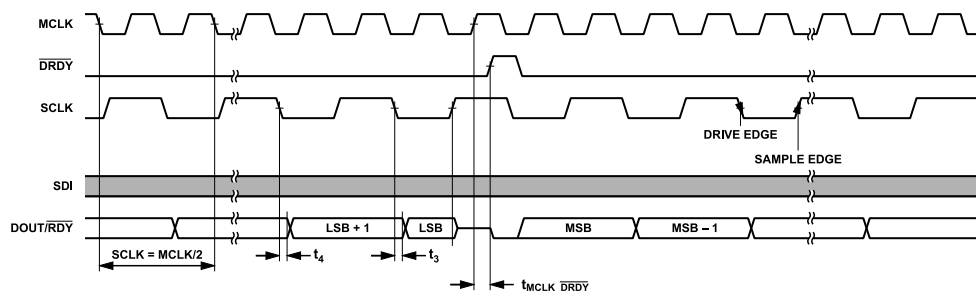

Figure 153. Recommended Interface for Reading Conversions, SPI Control, Continuous Readback Mode
The ADAQ7768-1 interface is flexible to allow the many modes of operation and for data output formats to work across different DSPs and microcontroller units (MCUs). To achieve maximum performance, Figure 153 show the recommended interface configuration
Figure 153 shows how the recommended interface operates. The data read back spans the entire length of the \overline{DRDY} period and the LSB remains until \overline{DRDY} goes high for the next conversion.
2. Generate SCLK based on the \overline{DRDY} or \overline{RDY} timing. SCLK is high when the \overline{DRDY} signal goes high and transitions on the MCLK falling edges (see Figure 153) to ensure that the LSB can be read correctly as the DOUT/ \overline{RDY} output is reset on the \overline{DRDY} rising edge. However, SCLK rising occurs before this transition.
Because the full ODR period is for clocking data, the \overline{RDY} signal no longer flags after each LSB outputs. This signal only flags if the ADAQ7768-1 is in the continuous readback mode, or if the ADAQ7768-1 does not count 32 SCLKs within $1 \times t_{MCLK}$ before \overline{DRDY} , as shown in Figure 153.